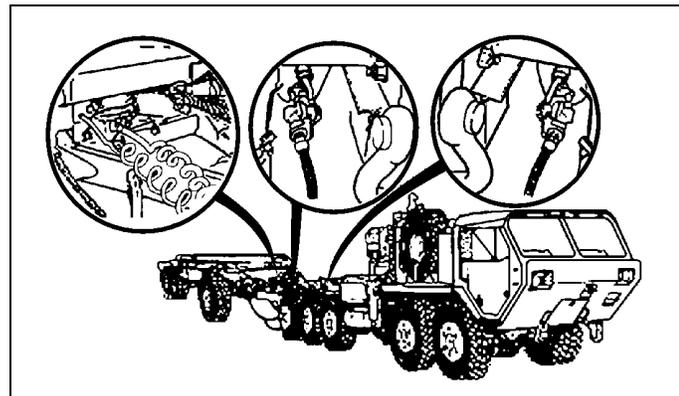

Figure 3-62b. Coupling (continued)
- j. Connect service air hose to towing vehicle glad-hand. If coupling an M105A2C, also connects emergency air hose to towing vehicle glad-hand (see Figure 3-62b).